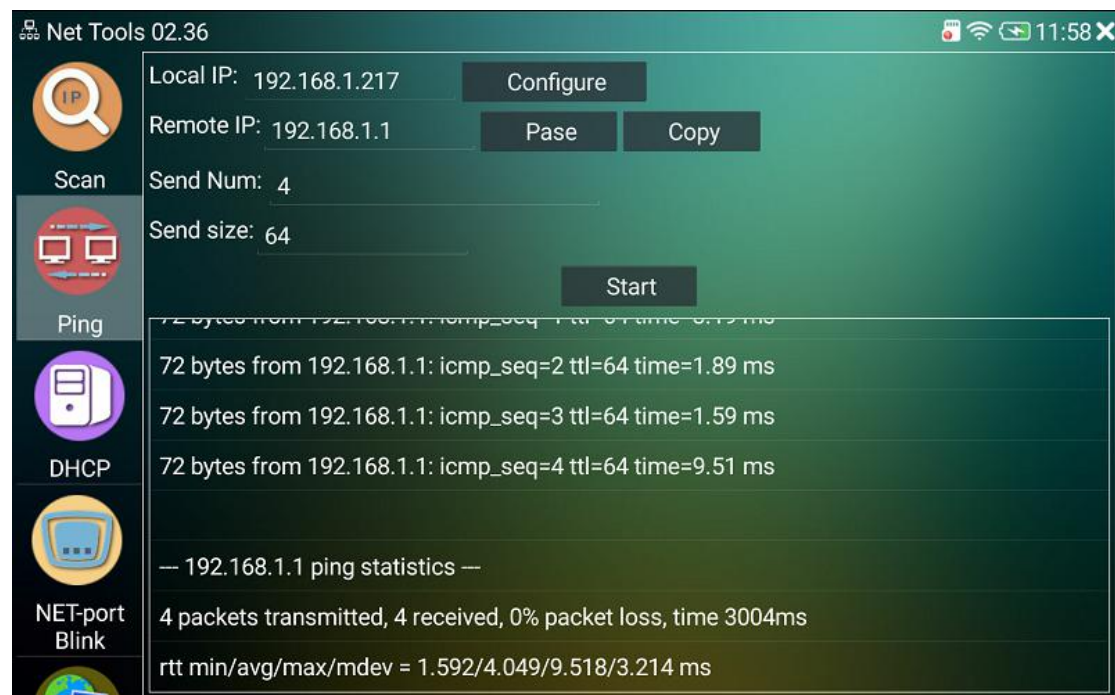

Figure 33
2) PING Tool: Touch 'Ping' icon on the left bar to perform network debugging conveniently, input 'Remote IP', 'Send Num' and 'Send size' can use default value, you can test current network condition and PING value, touch 'Start' button to perform this operation, as shown in Figure 33